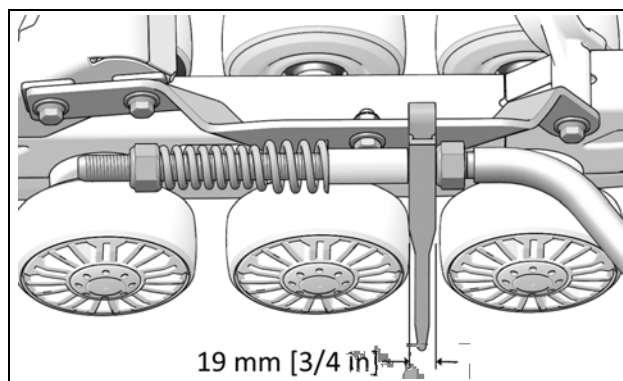

Figure 15
- **IMPORTANT:** Double-check 19 mm minimum distance between nut and stabilizing arm guide. Re-adjust as needed. See Figure 15.